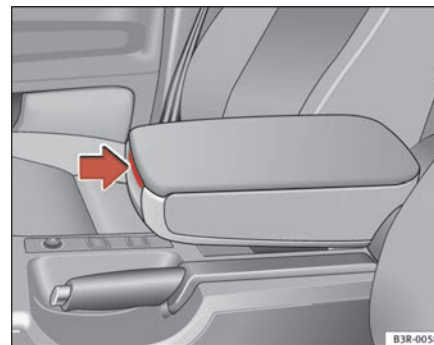

Fig. 113 Armrest
- Press the release lever ⇒ fig. 113. ▶